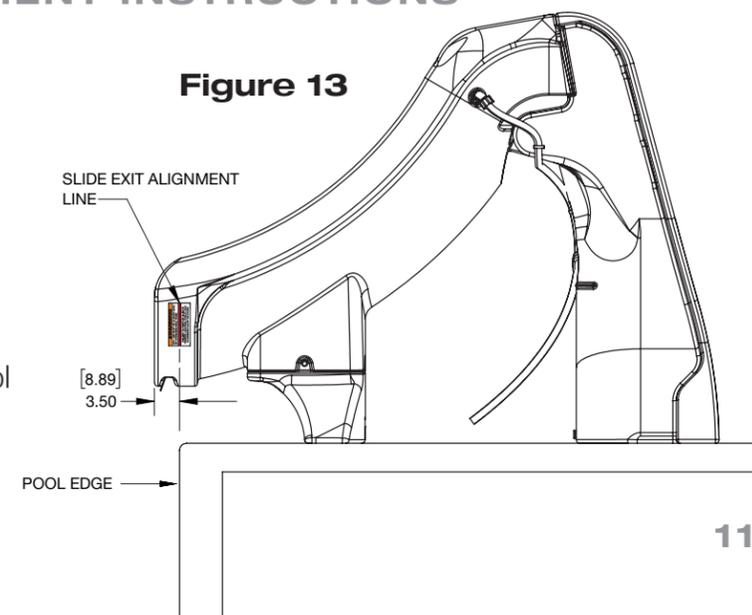

Figure 13
1. Place the assembled slide on the deck in a location that meets the requirements detailed in Manufacturer's Placement instructions on pages 13, 14 and 15. The Slide may be angled slightly providing all dimensions are maintained as noted in the Manufacturer's Placement Instructions. The red lines on the sides of the runway exit warning label must be aligned with, or overhanging the edge of the pool (**Figure 13**).
1. The critical dimensions for placement of the SlideAway® are shown in **Figures 13, 14** and **15**.
- A. The red lines on the sides of the runway exit must be aligned with, or overhanging the pool edge, see **Figure 13**.